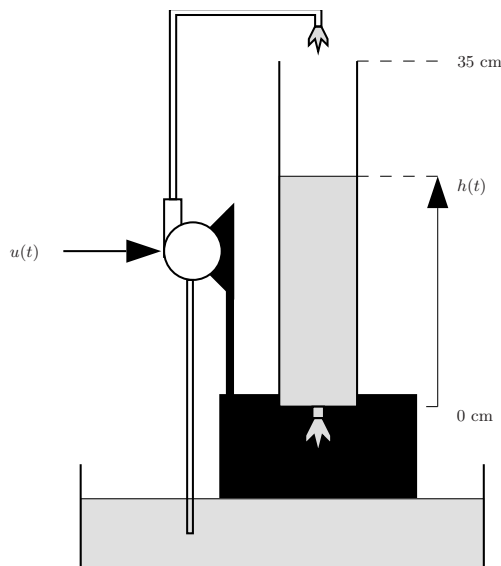

Figure 3: A tank system.
1. Consider a tank system, where the inflow $q_{\text{in}}(t)$ is generated by an electric pump controlled by the voltage $u(t)$. The measured output signal is the water level $h(t)$ of the tank, and the maximum water level H is 35 cm. An overview of the tank system can be seen in Figure 3.